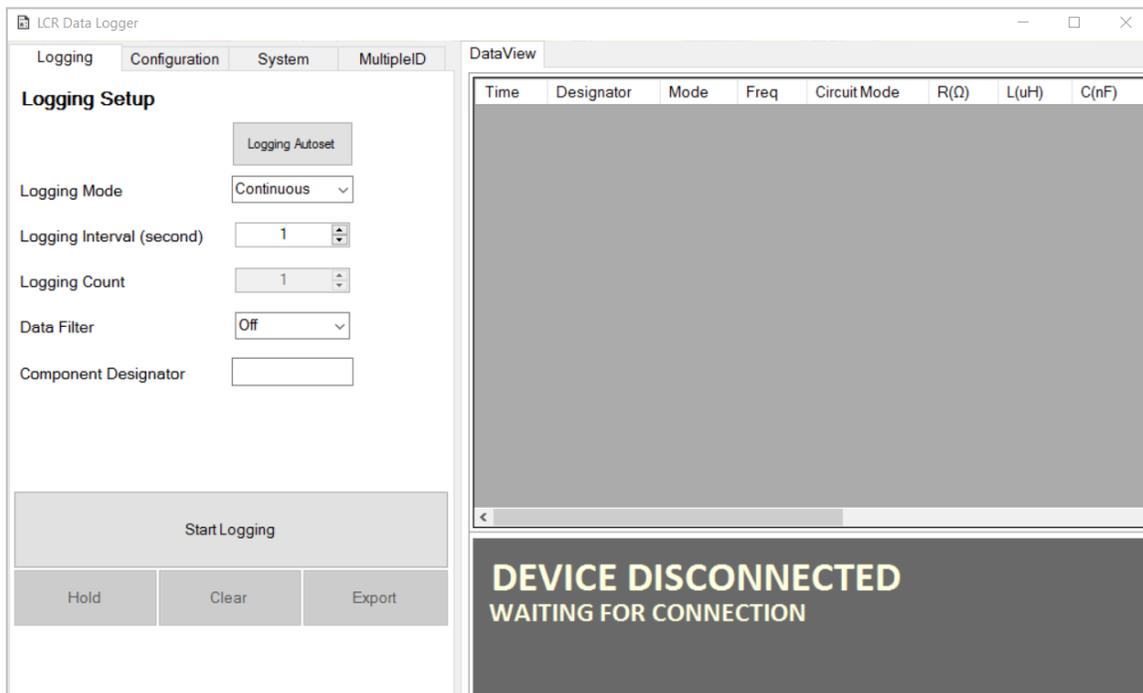

Figure 3-4: Message that Device not being Connected
5. If the software hasn't connected to the device, GUI shows the "DEVICE DISCONNECTED, WAITING FOR CONNECTION" message as Figure 3-4 shows.